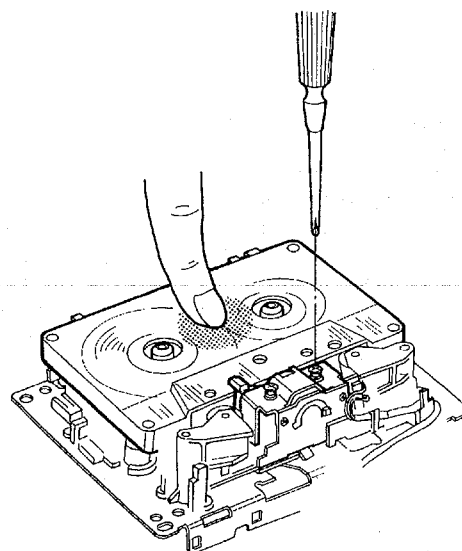

Fig. 5
- If you wish to readjust the head azimuth, be sure to adjust with adhering the cassette tape closely to the mechanism by pushing the center of cassette tape with your finger. (Shown in Fig. 5.)